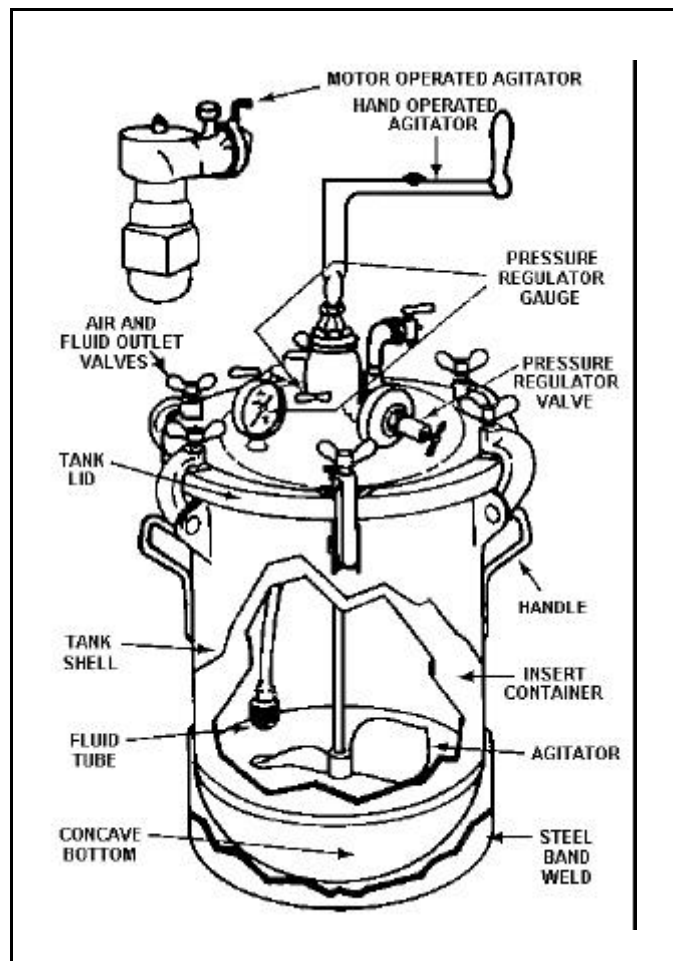

Figure 13-20. Pressure Tank
- Pressure tanks are large containers with a capacity of 2 to 60 gallons. Figure 13-20 shows a common type of pressure tank. There are two general types, the regulator type and the type that uses the equalized pressure tank.
13-125. The pressure tank shown in Figure 13-20 is equipped with air outlets and fluid outlets. The fittings, pressure regulators, and gauges permit the use of more than one spray gun at the same time.